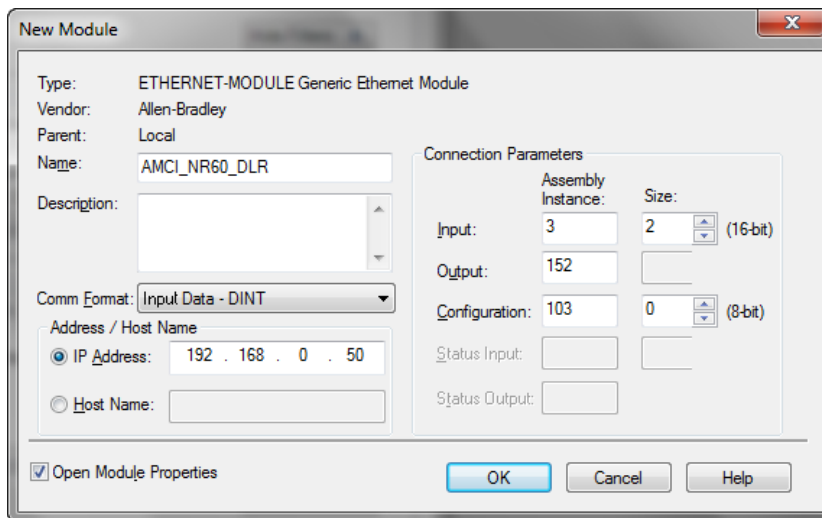

Figure 4.3 Sample NR60 Configuration Screen
3) Set the following parameters in the Module Properties window. All parameters not listed here are optional. Figure 4.3 shows a completed screen.